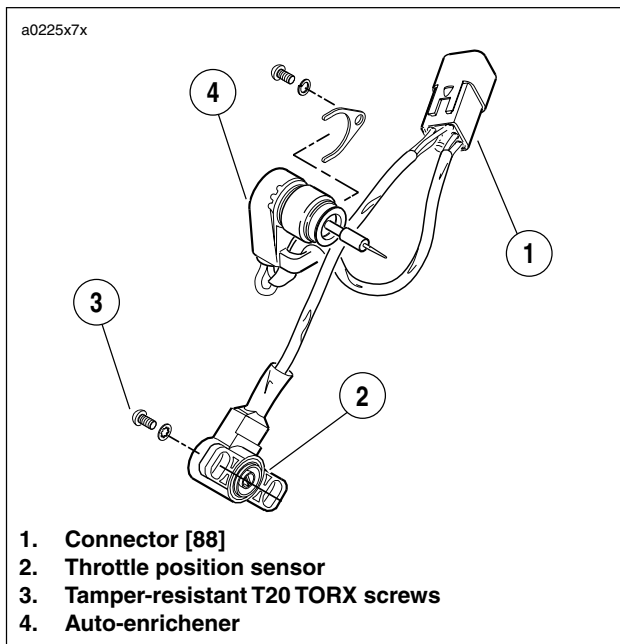

Figure 7-94. TP Sensor/Auto-Enrichener Connector [88]
16. See Figure 7-94. Disconnect TP sensor/auto-enrichener connector [88] under frame backbone.